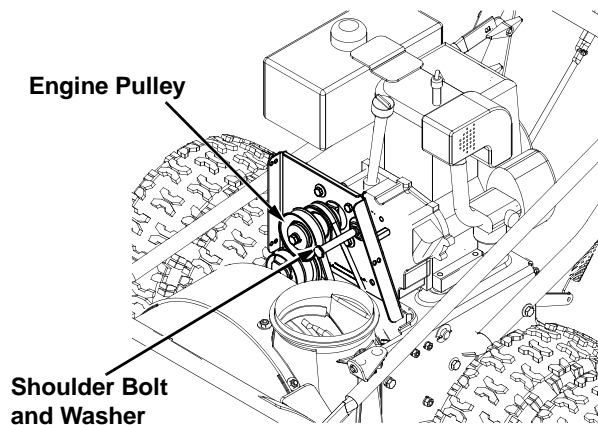

Figure 20
- Remove the large shoulder bolt and washer on the left hand side of the engine pulley. See Figure 20.
- Insert ferrule on auger idler rod into bracket assembly and secure with flat washer and cotter pin. Reassemble the large shoulder bolt and lock washer. Refer to Figure 20.